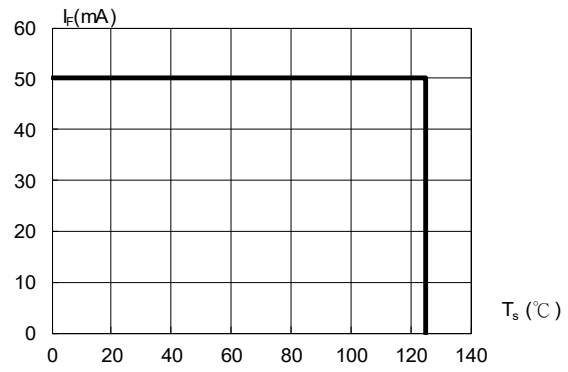

Fig.4 Allowable Forward Current vs. Solder Point Temperature
**Note:** [1] Design of heat dissipation should be considered. For the allowable operating current at different operating temperature, please refer to fig 4. page 5.